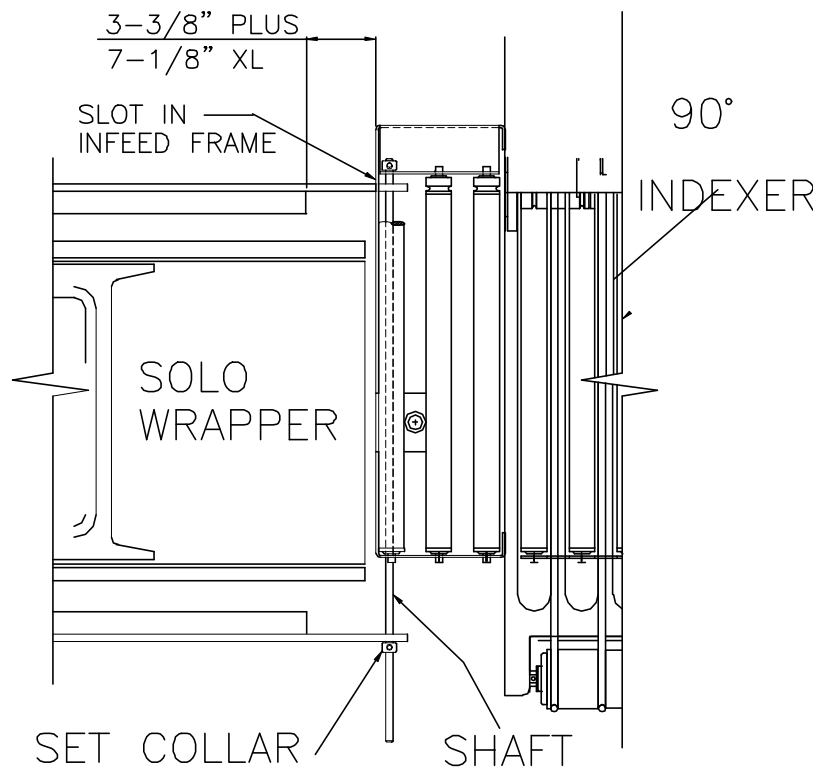

Figure 4-1: Solo Wrapper Attachment
- Assemble the two side braces included in the connector bracket KOP and the ABS side covers on the sealing belt support using the four(4) M5 X 16 Phillips Head Capscrews provided. The braces extend out 3 3/8 in. from the sealing belt support on the Solo Plus. The braces extend out 7 1/8 in. from the sealing belt support on the Solo XL (See figure 4-1).
- Position the 90° Indexer so the rear brace on the wrapper fits through the slot in the infeed frame (See figure 4-1).
- Attach the 90° Indexer to the 645 Wrapper by inserting the retaining bar included with the connector bracket KOP through the side braces and the slotted holes in the infeed bracket of the 90° Indexer and secure with the set collars provided (See figure 4-1).